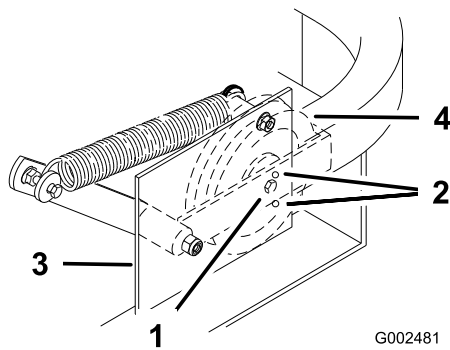

Figure 58
Important: Check and make sure the belt is installed into both the front and rear belt guides (Figure 58).
4. Check the belt tension. The spring loaded idler center bolt needs to be near the top alignment hole in left support plate (Figure 58).